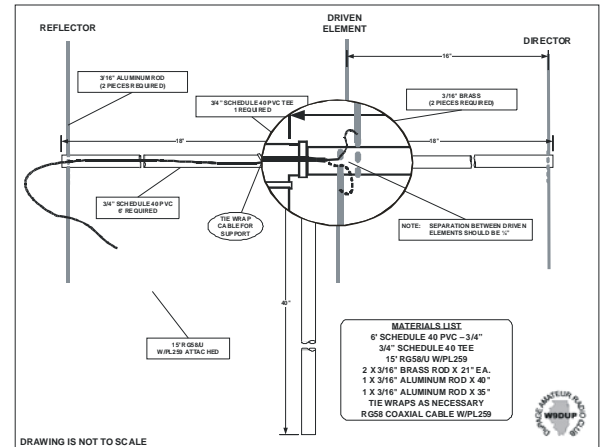

Figure 2 – COAXIAL CABLE CONNECTION DETAIL
7. The coaxial cable will be preconfigured with a PL259 connector and preassembled to the ends for the DRIVEN ELEMENTS. The coaxial cable will be connected above and below the PVC pipe as detailed above in Figure 2.